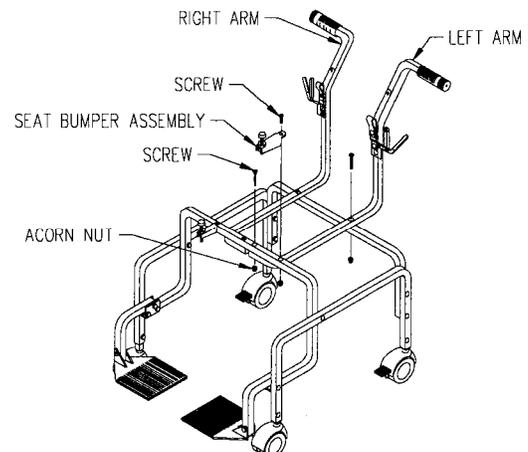

Figure 2
21. Place right and left arms on the wheel frame assembly as shown in figure 2. Secure the arms with 1/4-inch x 1 3/4-inch screws and acorn nuts. Tighten securely.
22. Attach the seat bumper assemblies with screws and acorn nut as shown in Figure 2 and tighten securely.